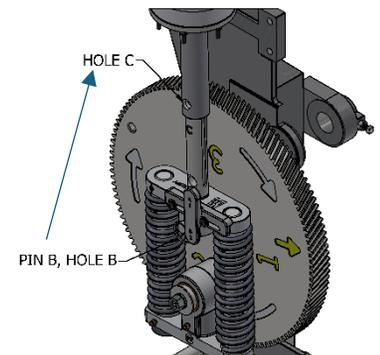

Figure 9: Pin B to Hole C
7. Remove Pin B from Hole B, and insert it into Hole C (Figure 9).